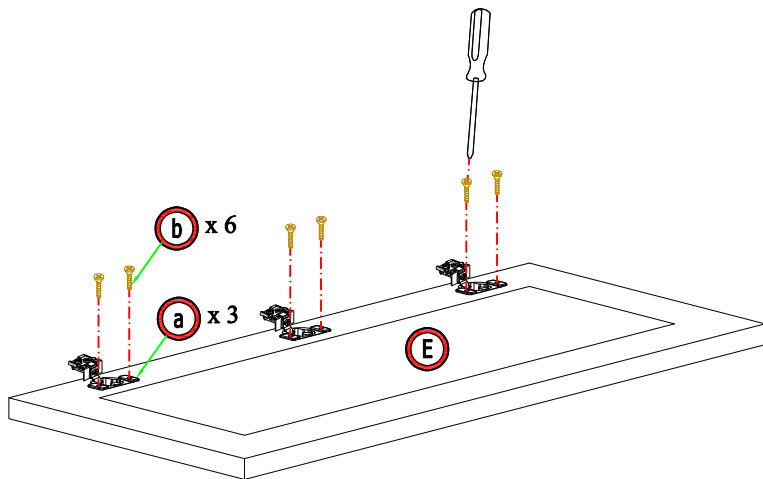

Figure 6
6. Assemble 4 hinges into two doors by screwdriver and 8 screw 7/15" (Figure 6)